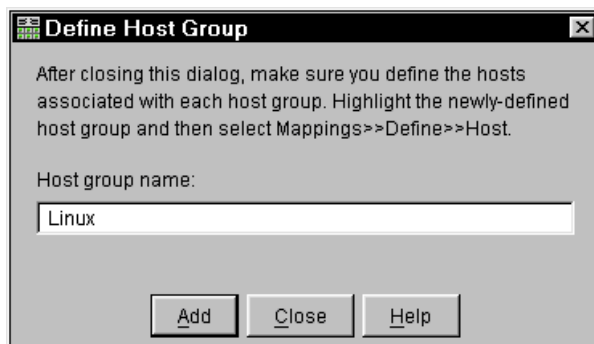

Figure 4-37 Entering the host group name
3. The Define Host Group dialog (Figure 4-37) opens. Enter the names of the host groups you need. When you are finished, click **Close** to exit the dialog. Note that if only one server will access the logical disks in a storage partition, then it is not necessary to define a host group because you could use the default host group. However, as requirements are constantly changing, we recommend that you define a host group. Otherwise the addition of new systems is not possible without disrupting the already defined mappings in the default host group.